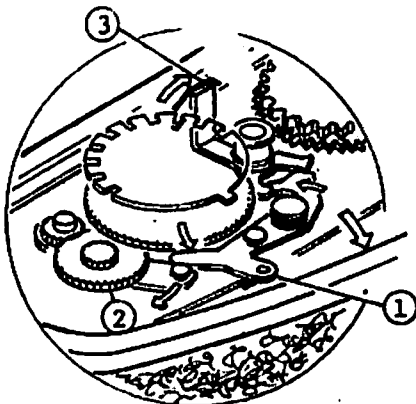

Fig. 121
- \* Release plate (1), Third gear (2) and Release lever (3) come off from Film counter gear by opening Back cover. Consequently, Exposure counter automatically resets to S (Start) as shown in Fig. 121.